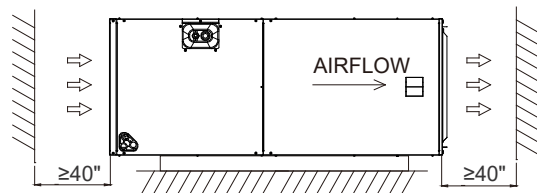
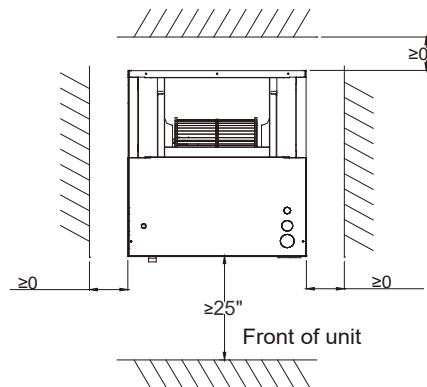

Fig.2-1 CLEARANCES IN THE HORIZONTAL POSITION
Fig.2-2 CLEARANCES IN THE VERTICAL POSITION
See Fig.2-1 and Fig.2-2.
- Low voltage control connections are made to low voltage pigtails extending from top of air handler (upflow position - see Fig 2-2).